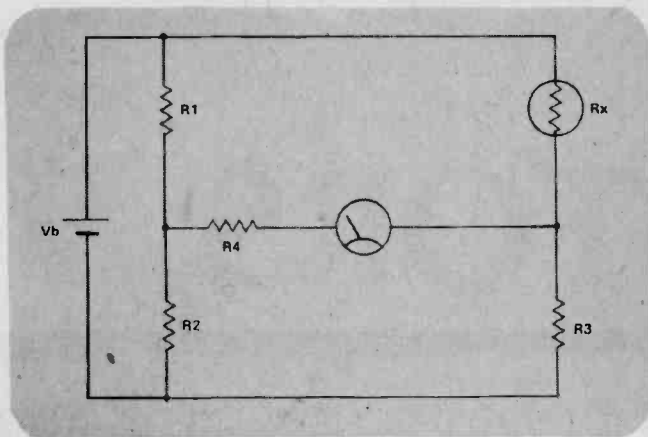
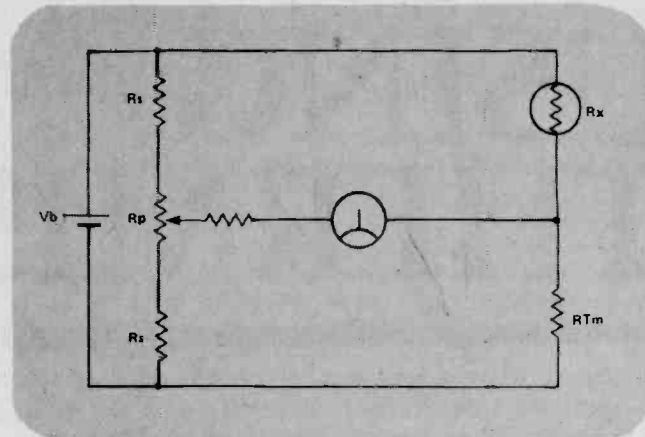

Fig. 1. Wheatstone Bridge circuit modified as a thermistor thermometer.
Fig. 3. Slidewire bridge modified for potentiometer readout and range limiting resistor.
Accurately known temperature characteristics of a given thermistor permit the design of specific measuring bridges (Fig. 1) which because of their simplicity, greatly add to the convenience of actual temperature measurement. It is possible to use a microammeter as a temperature indicator if we replace Rx by a calibrated thermistor (RT). By the choice of appropriate resistance values, of the bridge and thermistor can be matched to give an almost linear response to temperature. The thermistor exponential curve closely approximates the hyperbolic curve of the bridge (Fig. 2). The closest agreement between the two curves can be obtained by using a geometric mean calculation to determine values for R2 and R3. RTc is the thermistor resistance at the lowest temperature to be measured and RTw is the thermistor resistance at the highest temperature to be measured. The values RTc and RTw are obtained from manufacturers data, previous calibration or calculations using Eq. (1).
The traditional form of the Wheatstone Bridge for measuring resistance employs a slidewire replacing R1 and R2. The ratio of the R1 and R2 portions of the slidewire for a zero reading of the microammeter is directly proportional to the ratio of Rx to R3 where Rx is the unknown resistance and R3 is the standard resistance. Since the ratio of R1 to R2 theoretically ranges from zero to infinity at the extreme settings of the slide wire, it is useful to limit the ratio by inserting a series resistor (Rs) at each side of the slide wire potentiometer. In a practical circuit it is convenient to use a multiturn potentiometer in place of the slidewire. When the multiturn potentiometer is equipped with a turns counting dial, a three digit reading is possible. The circuit for a thermistor thermometer is given in Fig. 3. In comparison to the circuit in Fig. 1, the circuit in Fig. 3 has the advantages of both increasing the resolution of the thermometer and making it less dependent on the battery voltage. The absolute accuracy of the thermometer will depend on the precision with which the components can be selected and